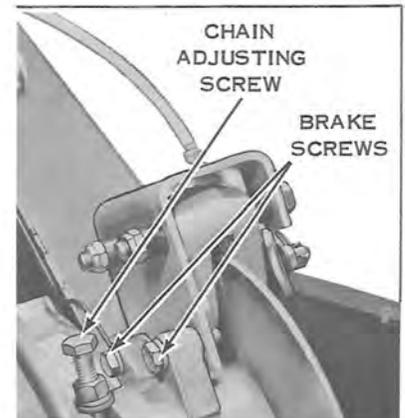
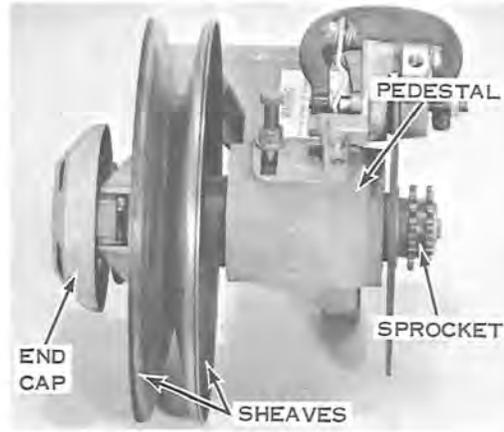

Figure 9-6
Figure 9-7
- b. Remove two screws attaching brake assembly to mounting pedestal (see Figure 9-6). Disassemble brake, if necessary, as described below.
- c. Remove drive chain adjusting screw (see Figure 9-6). Remove sprocket screw, washer, and sprocket, brake disc, and Woodruff key (see Figures 9-7 and 9-8). Pull shaft out of pedestal. NOTE: Magnesium pedestal is used on 1966 models.